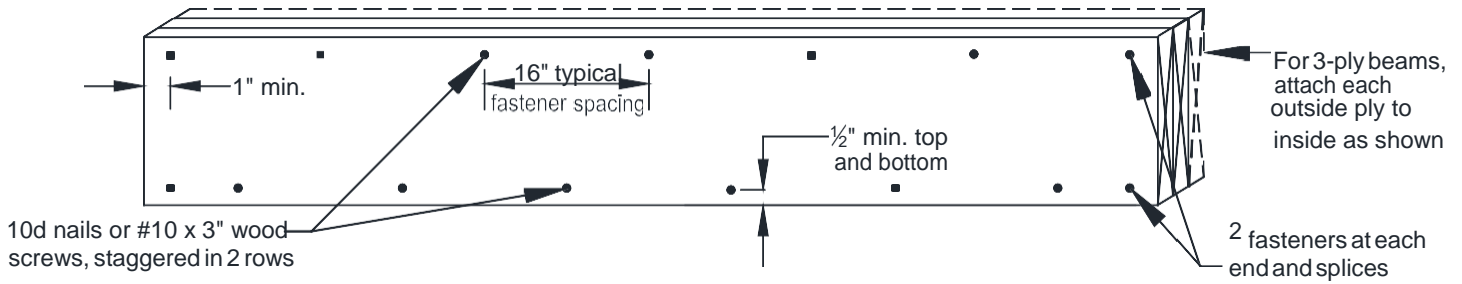

FIGURE 13: BEAM PLY FASTENING
- The plies of the beam shall be fastened in accordance with FIGURE 13.